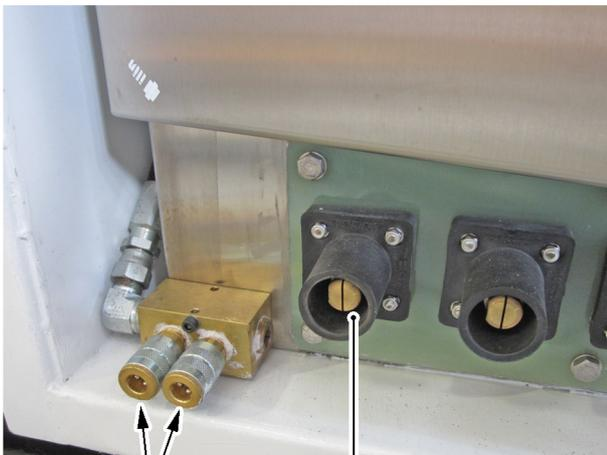

Figure 6.44 - Compressed air system (Optional)
On the Induction Heating Generator IHG 150CU a system for generating compressed air may be installed as optional (see Paragraph 2.2.5). The compressed air couplings (see Figure 6.44/3) are situated in the vicinity of the power connectors (2).